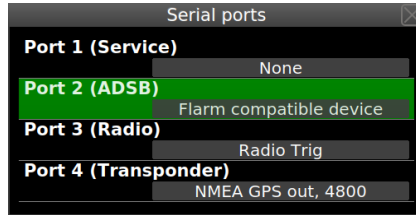

Figure 3.17: Serial port configuration window.
4. Select the *Serial ports* item. Figure 3.17 illustrates the window.
Configure the transponder RS-232 part to *NMEA* and set data rate to *4800*. Also, set Aetos port to *NMEA GPS out, 4800*, see Figure 3.17.